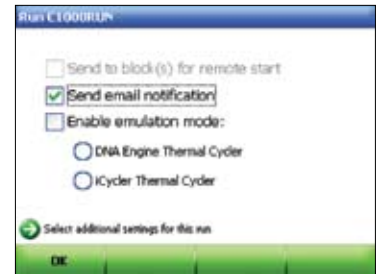

Fig. 12. Selecting email notification.
2. Use the arrow keys to select the **Send email notification** option (Figure 12).